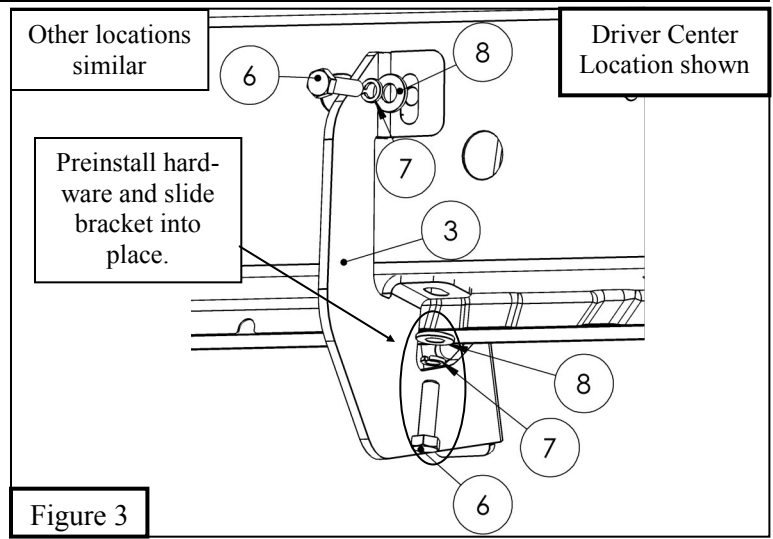

Figure 3
5. Partially install the M8 Hardware in the bottom of the rocker panel and then slide the Mounting Brackets (3) into place and install the remaining M8 Hardware. See **Figures 3 & 4**.